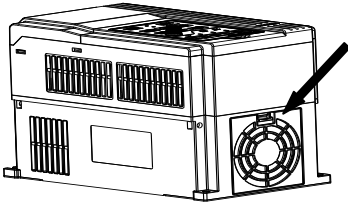

Figure 8-1 (a) Remove the fan covers
2. Figure 8-1 (b) shown in order to come up with the fan cover and fan, and then press the fan as shown in the medial elastic snap lead terminal, while a little harder to pull the fan lead terminal.